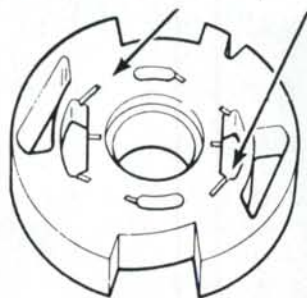
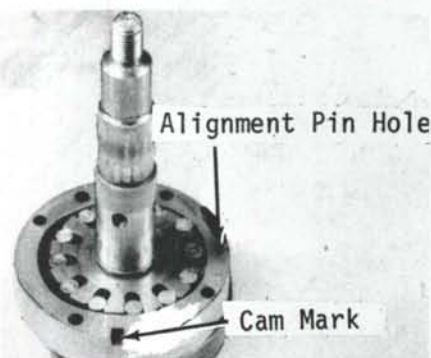

Fig. 47—When installing manifold plate, be sure side with port timing grooves faces away from pump cover.
Fig. 48—Install cam ring with cam mark towards drive end of shaft. Install alignment pin in smallest hole in cam ring.
To reassemble, install drive key (16) and carrier (15) on shaft. Position manifold plate on the cover with timing grooves (Fig. 47) facing up. Assemble shaft into bore of manifold plate. Install cam ring (Fig. 48) with cam mark towards drive end of shaft as shown, then install rollers in carrier. Position alignment pin in smallest hole in cam ring. Install end plate (9—Fig. 46) and the two retaining screws, but do not tighten screws.